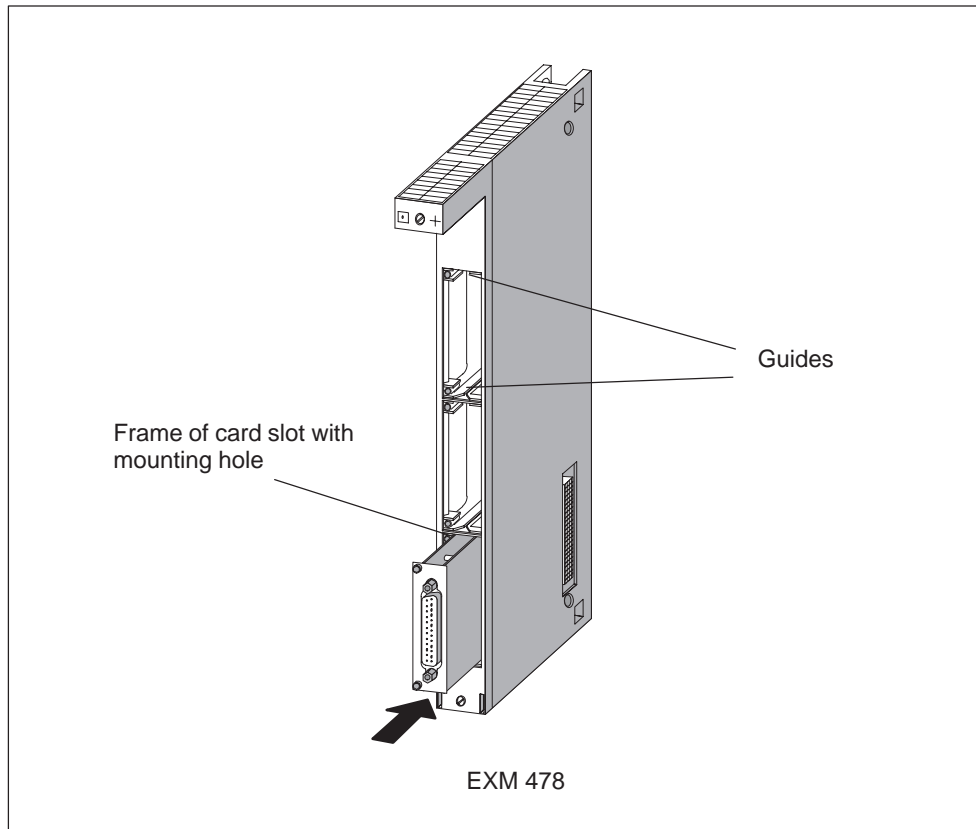

Figure 2-1 Inserting an Interface Submodule in an Expansion Module
2. Insert the PCB end of the interface submodule in the upper and lower guides of the card slot as shown in Figure 2-1.